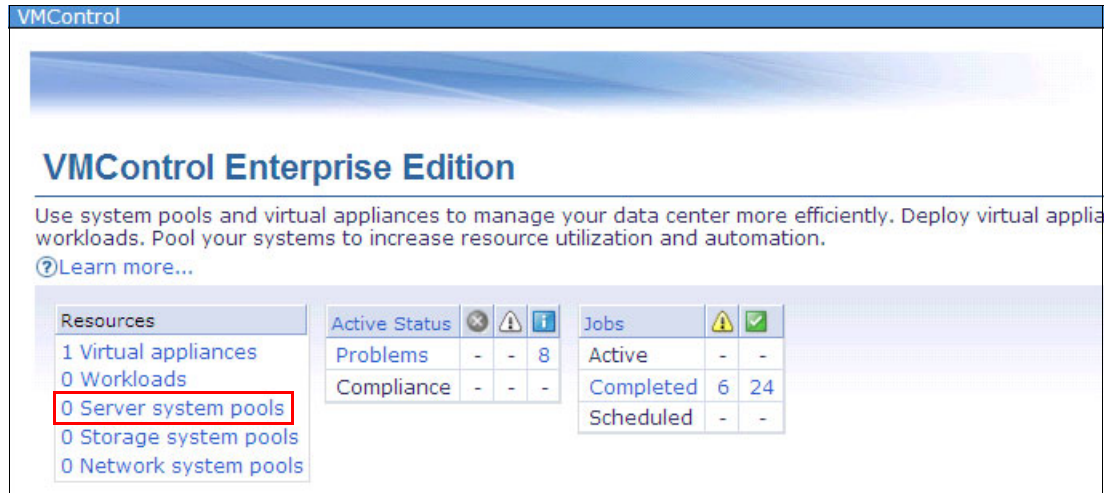

Figure 9-92 VMControl main window
1. Go to the VMControl main window as shown in Figure 9-92, and click **Server system pools**.